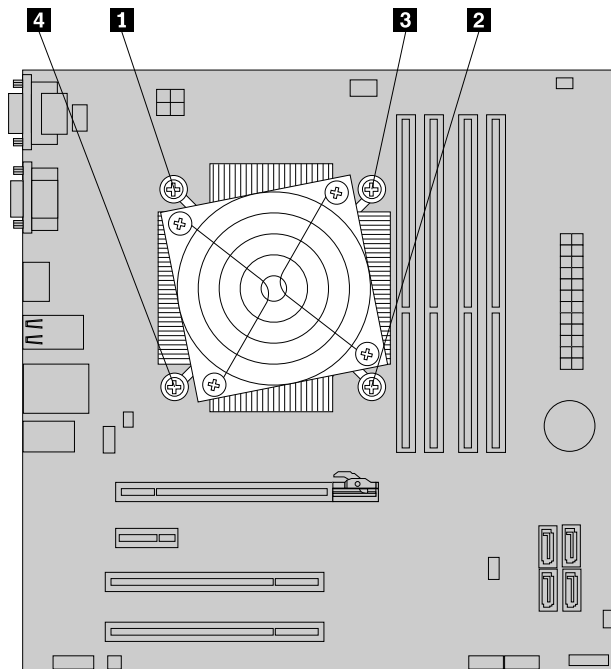

Figure 30. Removing the heat sink and fan assembly
9. Follow this sequence to install the four screws to secure the new heat sink and fan assembly. See Figure 30 “Removing the heat sink and fan assembly” on page 38.